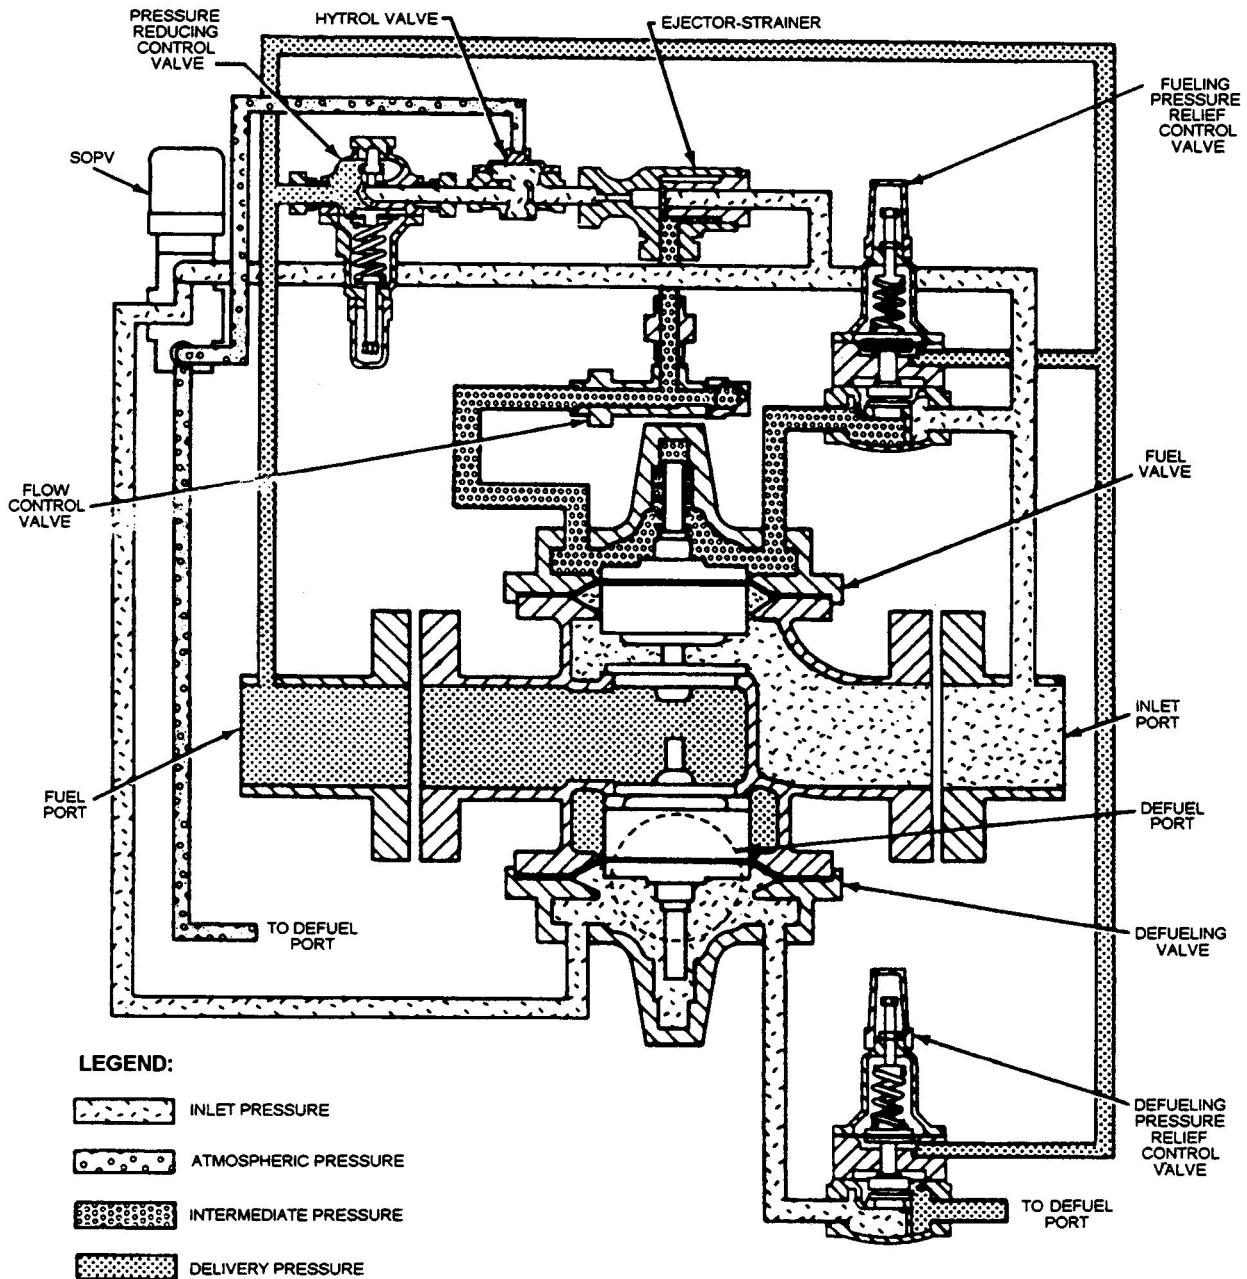

Figure 5-9.—Cla-Val fueling operation.
A step-by-step analysis of the valve's operation is as follows. Figure 5-9 shows the valve in the fueling position.
7. Figure 5-9 shows that delivery pressure is reflected under the diaphragm of both pressure-relief control valves, opposing the force applied by the spring. When a downstream pressure rise occurs that is sufficiently high to overcome the force of the spring, the defueling valve pressure-relief control valve opens to relieve pressure from the cover of the